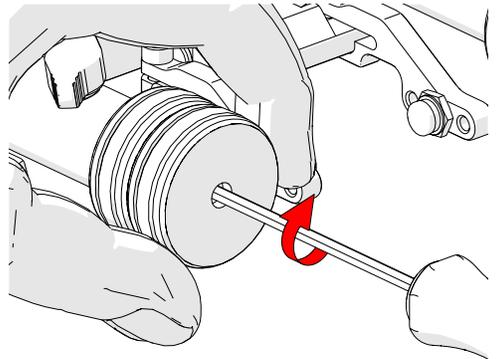

Fig. 33 - Second wheel installation
5. By hand, grip the wheel already attached to the axle. Overcome the magnetic resistance to screw the additional wheel to the axle of the scanner (Fig. 33).